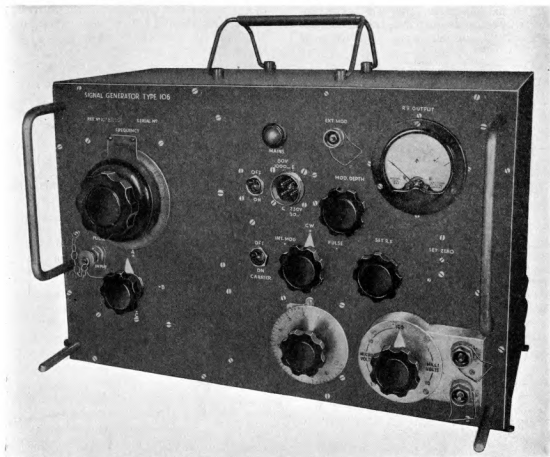

Fig. 10. Signal generator Type 106: front panel
**Signal generator Type 106 (fig. 10)**